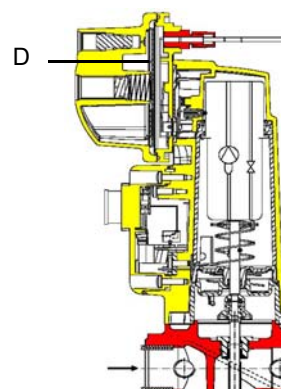

Fig. 12
**Caution:** the SKP2 diaphragm **D** must be vertical (see Fig. 12).